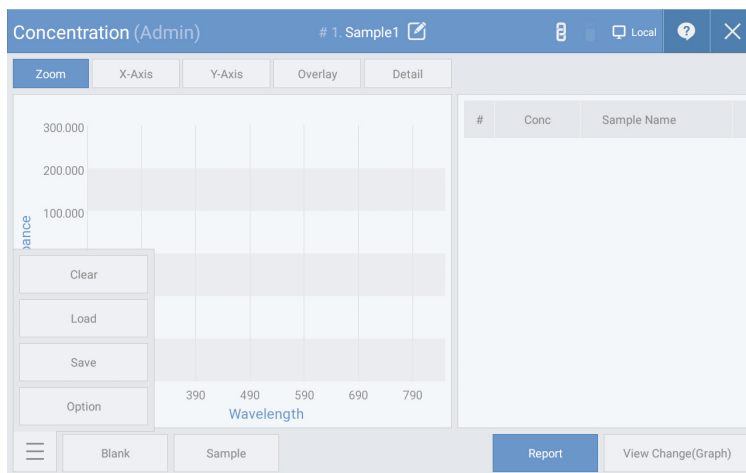

Fig. 3.10
1. Click the “Settings” button in [Fig. 3.10] to set the measurement environment.
2. Load the blank sample and click “Blank” shown in [Fig. 3.10] to measure the zero point.
4. Load the sample and click the “Sample” button shown in [Fig. 3.10] to begin measurement.